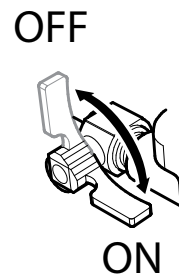

Figure 18. Water Valve (ON)
4. If applicable place water valve (Figure 18) in the OFF position.